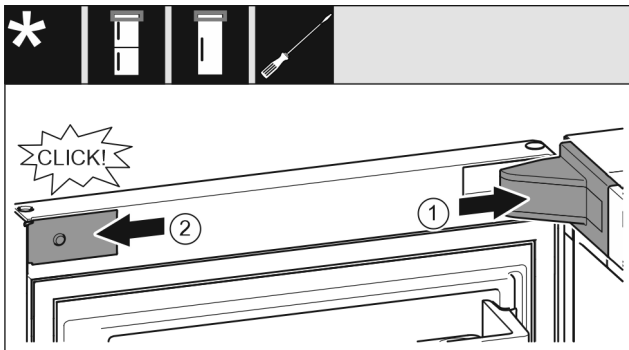

Fig. 19
- ▶ Position the bearing bracket and latch it in place. If necessary push it apart carefully. *Fig. 19 (1)*
- ▶ Position the panel on the side and latch into place. *Fig. 19 (2)*